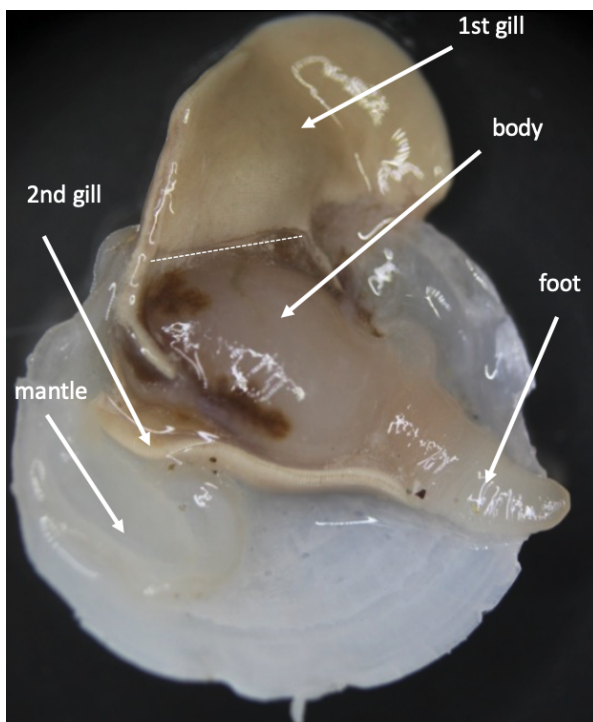

Figure 2.7 -3: a descriptive image of *Loripes lucinalis* clam organs. The dashed lines show the first gill cut up. photo credit: Julia Polzin.
4. After removing the 1st gill, (Figure 2.7 -4) turn around the whole body with the 2nd gill still attached.